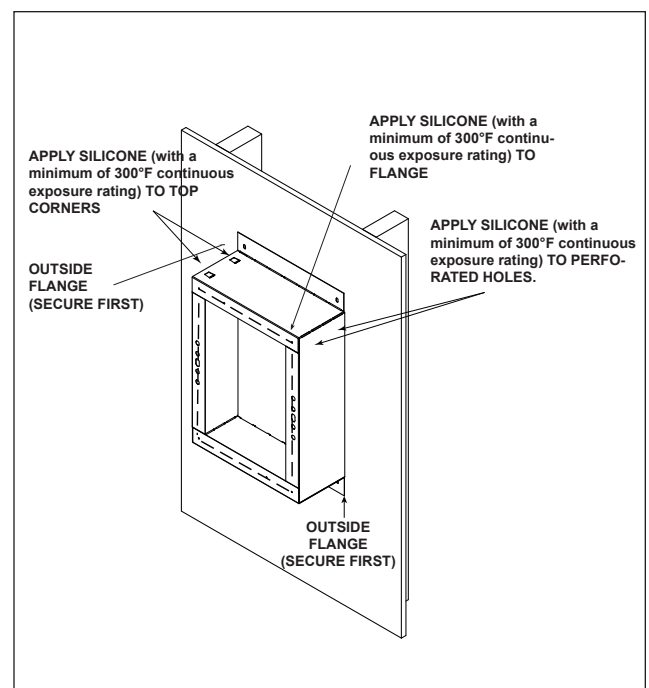

Figure 2.10 HEAT-OUT-BEK Attached to Wall
7. Place assembled box over the framed opening in the wall with outside flanges oriented vertically and held tight to the building exterior. See Figure 2.10.
8. Drive two of the supplied #8 X 3 inch screws through opposite ends of the two outer flanges. This will secure the Heat-Out-BEK extension box to the building and allow for squaring of the Heat-Out-BEK. See Figure 2.10.